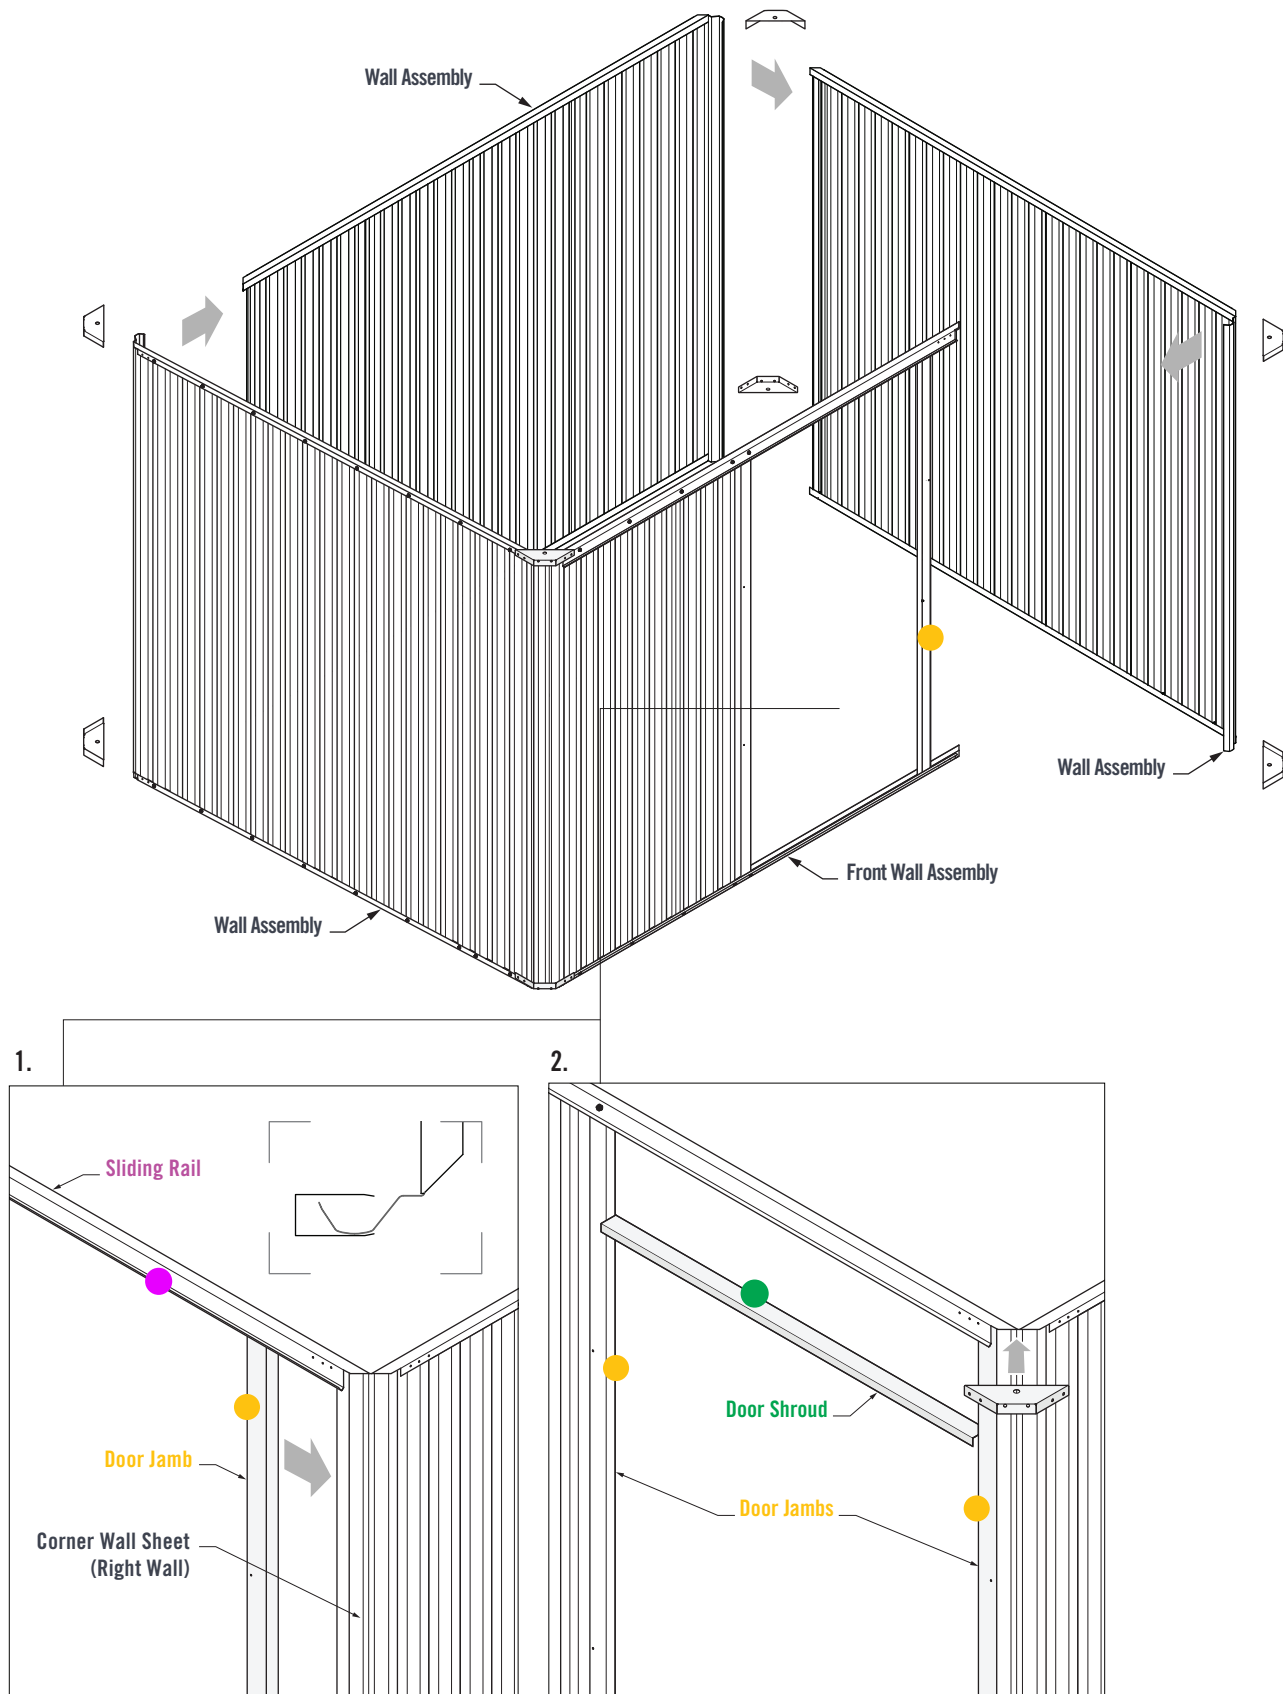

FIGURE 6.1
1. Before fixing the Right Side Wall Assembly to the Front Wall, the **Door Jamb** must be moved into position. Slide the **Door Jamb** over the corner of the Right Wall Sheet (Figure 6.1).